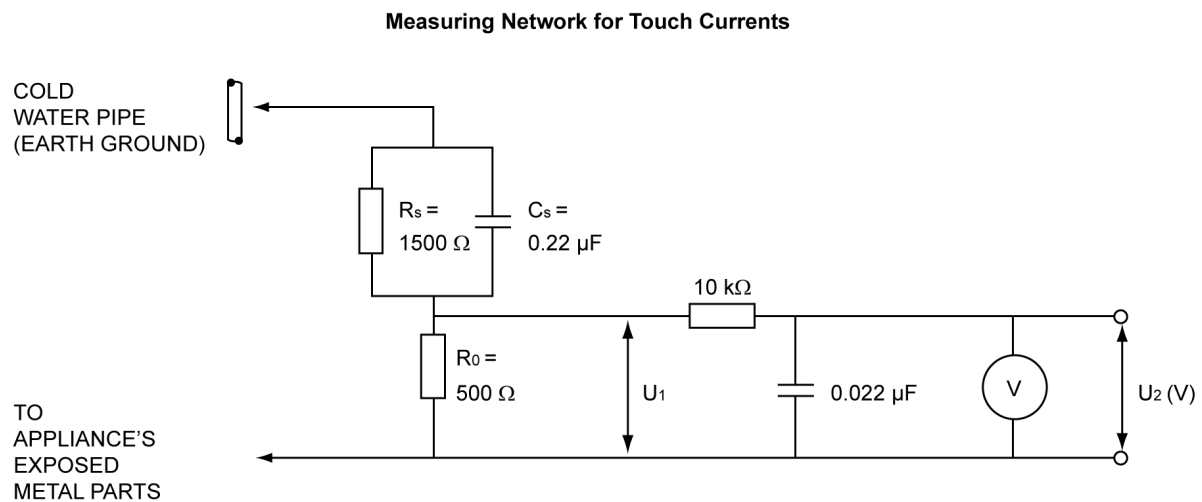

Figure 1
2. Connect a measuring network for touch currents between each exposed metallic part on the set and a good earth ground such as a water pipe as shown in Figure 1.